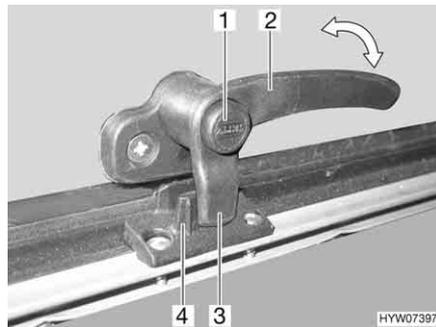
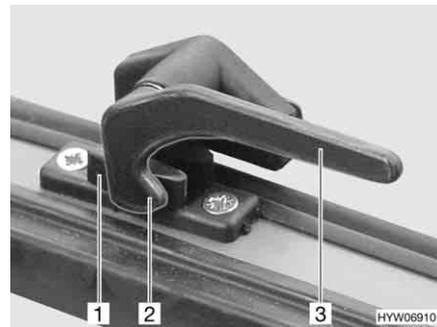

Fig. 68 Catch lever with safety knob in "closed" position
Fig. 69 Catch lever in "closed" position
- Press and hold the security button (Fig. 68, 1), if present.
- Turn the catch lever (Fig. 68, 2 or Fig. 69, 3) a quarter turn towards the centre of the window.
- Press and hold the security button (Fig. 68,1), if present.
- Turn the catch lever (Fig. 68,2 or Fig. 69,3) a quarter turn towards the window frame. The locking catch (Fig. 68,3 or Fig. 69,2) on the catch lever is entirely on the inner side of the window catch (Fig. 68,4 or Fig. 69,1).
- Firmly closed (Fig. 68 and Fig. 69)